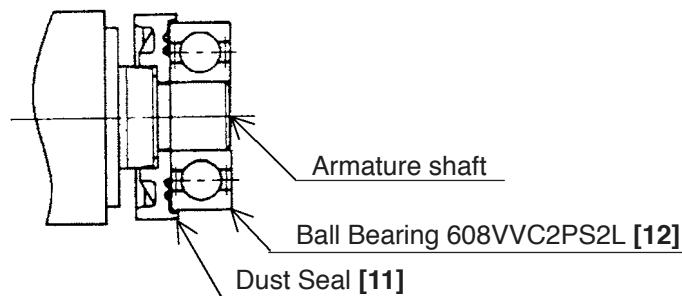

Fig. 3
- (1) Ensure that the terminals of the stator are not bent or otherwise damaged.
- (2) Generously lubricate the teeth of the gear and the pinion with grease. Rub grease onto the teeth with your fingers so that the grease reaches each tooth bottom. Note that the gear and the pinion may wear faster than normal if under-lubricated.
- (3) Be sure to soak the inner diameter of the Felt Packing [19] with machine oil. Otherwise, its dust-sealing function will fail to work properly, resulting in earlier damage of the Ball Bearing 6201VVCMP2L [18].
- (4) When replacing the Armature [7] and the Ball Bearing 608VVC2PS2L [12] on the commutator side, press inward on the Dust Seal [11] while taking care of its direction until the end face of the Dust Seal [11] contacts against the end surface of the Armature [7] and make sure that Dust Seal [11] cannot be turned freely by hand. (See Fig. 3).